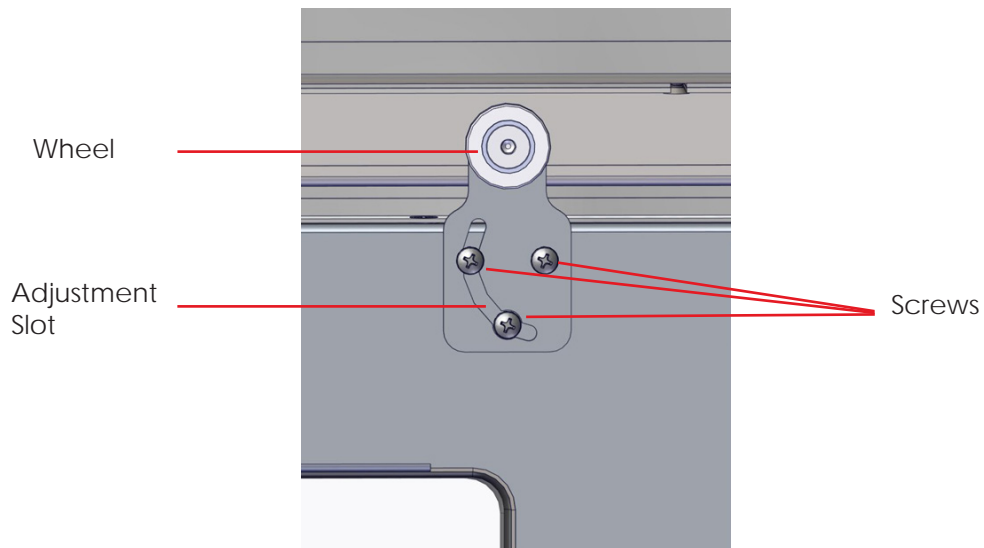

Fig: 25: Wheel Plate and Screw Details
1. Using a Phillips head screwdriver, slightly loosen the three screws holding the wheel plate to the sliding glass door (Fig. 25 with channel removed for clarity).